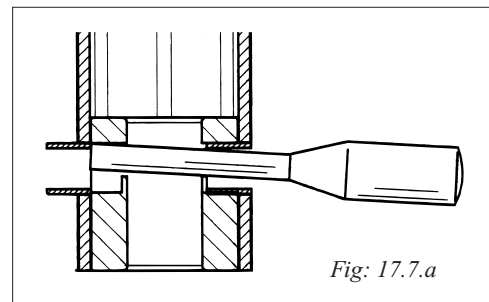

Fig: 17.7.a
- 6.b 400 S & 500 S: Push the wire into the luff extrusion system until the end of the wire is approx. 50 mm (2") inside the 1000 mm (39 3/8") extrusion. Knock out the bushes at the lower end of the 1000 mm (39 3/8") luff extrusion. See Fig: 17.7.a.